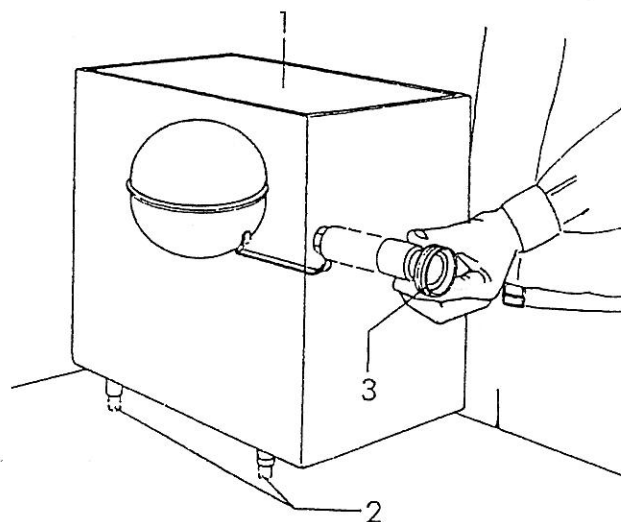

Fig.10.1.8
From the "cone" cycle it is necessary to replace the dispensing nozzle and the product containing tank fitted with a tap pos. 2 floating valve fig. 10.1.8 pos. 3.
- Mount tank 1 fig. 10.1.8 on the support plate. Pins 2 fig. 10.1.8 must be correctly positioned in the holes on the support plate.
- Connect the tank supply pipe to pipe fitting 3 fig. 10.1.8 of the tap;